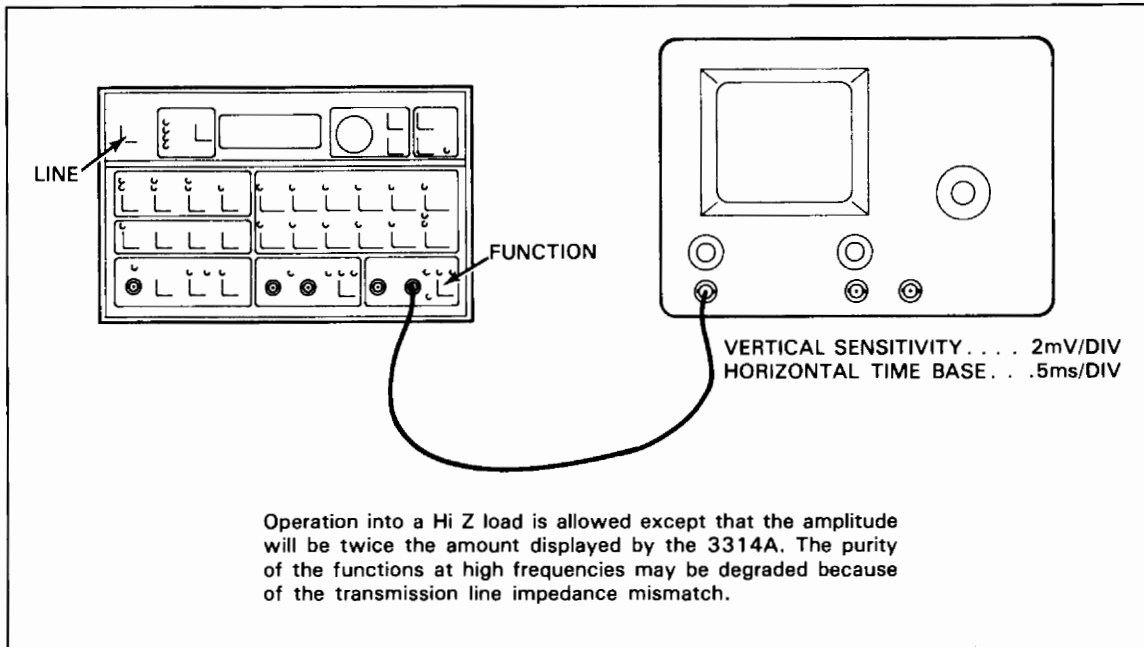

Figure 1. Basic Installation Verification
6. Connect the 3314A to an oscilloscope as shown in Figure 1 and verify that the 3314A's output is a 1kHz, 10mVp-p sinewave. Press the FUNCTION key to cycle the 3314A's function to squarewave, triangle, off and back to sinewave. The FUNCTION key is located in the lower right hand corner of the front panel.